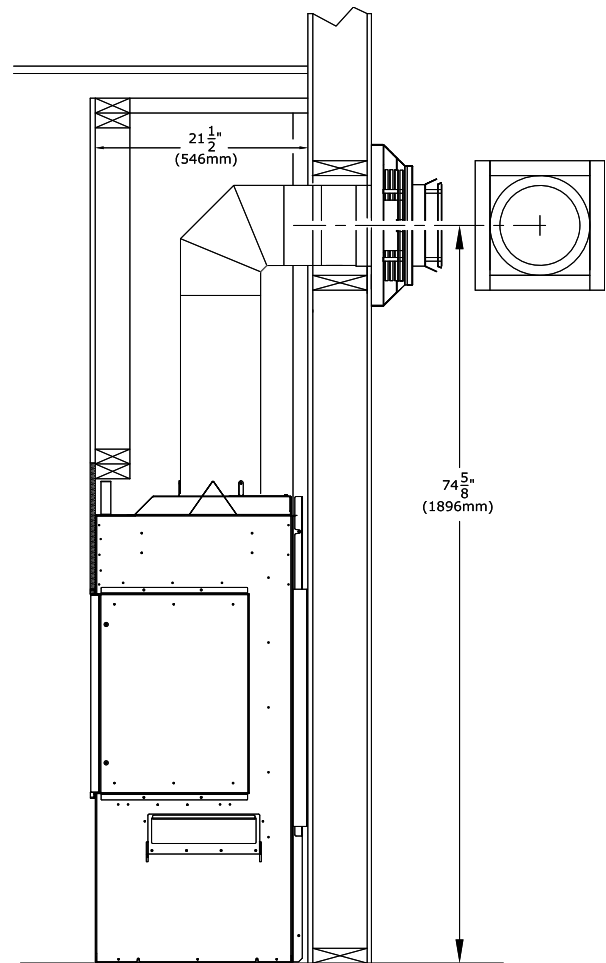

Figure 4.5 - Minimum Wall Thimble Framing
- Follow Figure 4.5 below for minimum rough-in dimensions.
1. Measure from floor level of the fireplace to the center of where the vent pipe will penetrate the wall. The dimension in Figure 4.5 is used with a Simpson DuraVent vent pipe.